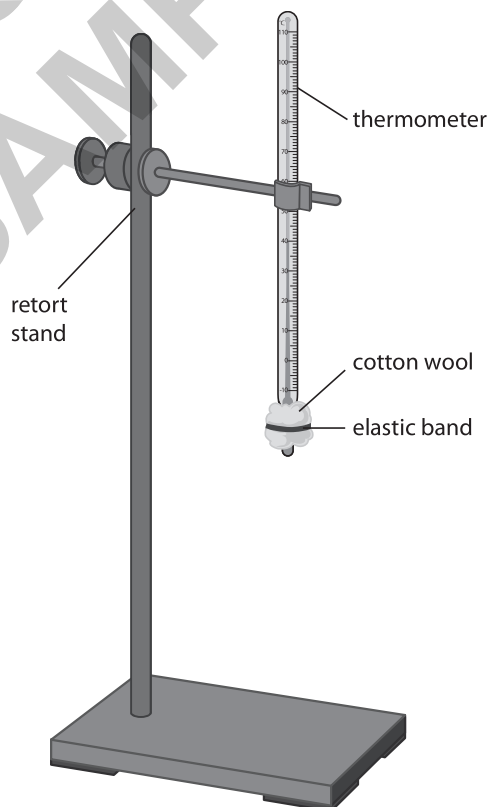

Figure 1.1
- 2 Clamp the thermometer as shown in Figure 1.1.